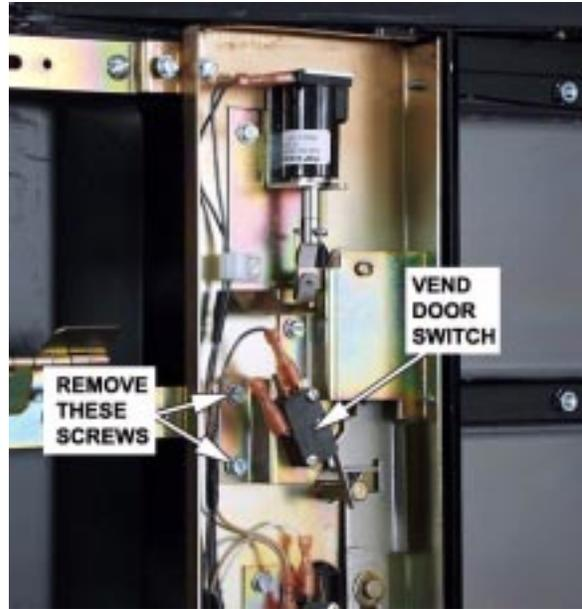

Figure 40
2. Disconnect the electrical leads from the vend door switch (figure 40).